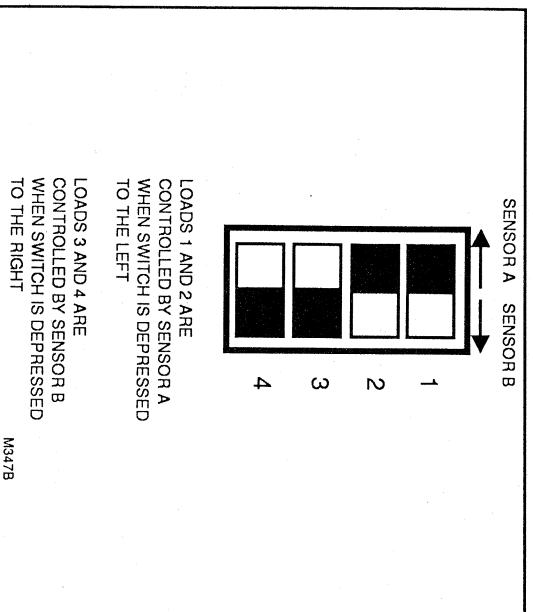

FIG. 3—DIP SWITCH SETTINGS FOR SENSOR SELECTION.
The T775B has dual sensor inputs and allows two separate controllers to exist within one enclosure. Selection of the stage parameters (operation mode, set points, and differentials) is the same as that for a single sensor device once each stage has been assigned to its operating sensor. This assignment is hardware driven via a four position DIP switch. An explanation of the DIP switch assignments appears in Fig. 3 (see Fig. 2 for the DIP switch location).
will be the controlling sensor for that output stage. If an individual stitch is depressed to the left, Sensor A will be the controlling sensor for the output stage. An example of the switches and their corresponding positioning is shown in Fig. 3.
1. For the T775B assign the loads to the appropriate sensor by setting the DIP switch in the upper right corner of the T775 (see DIP Switch Selection Fig. 3).